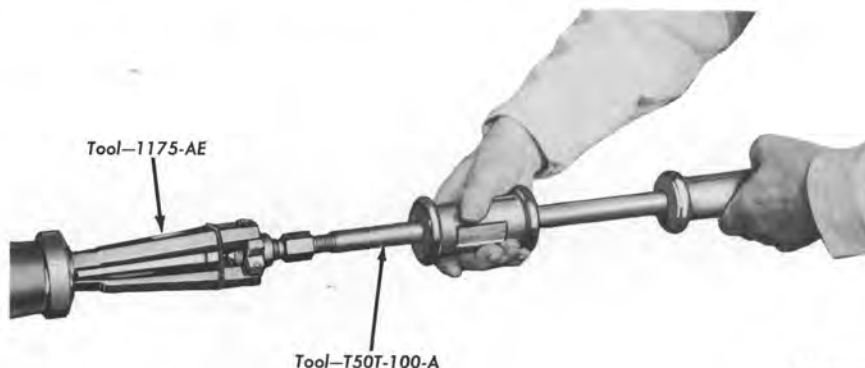

FIG. 13—Seal Removal
22. If the extension housing seal is to be replaced, use the tool shown in Fig. 13 to remove the seal.